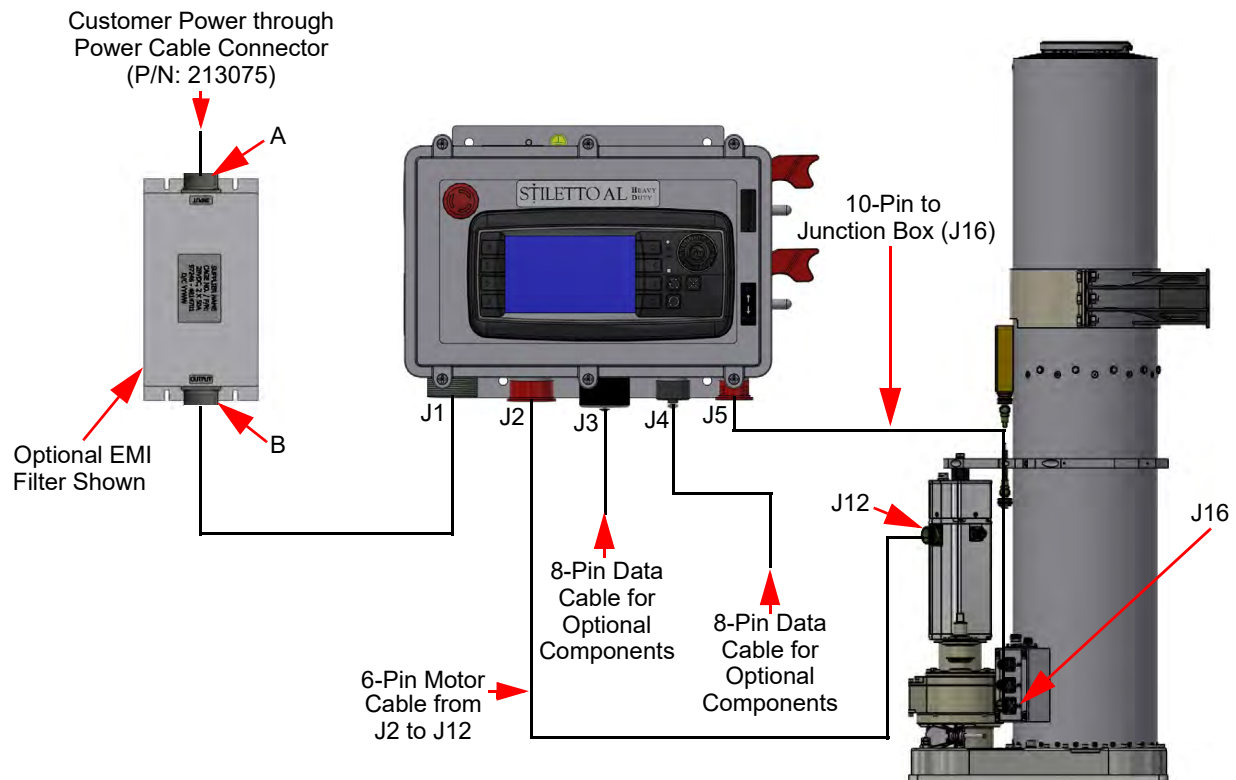

Figure 5-8 Stiletto AL HD Wiring (Not to Scale)
1. Refer to Figure 5-8 for an overview of the system wiring (optional EMI filter shown).